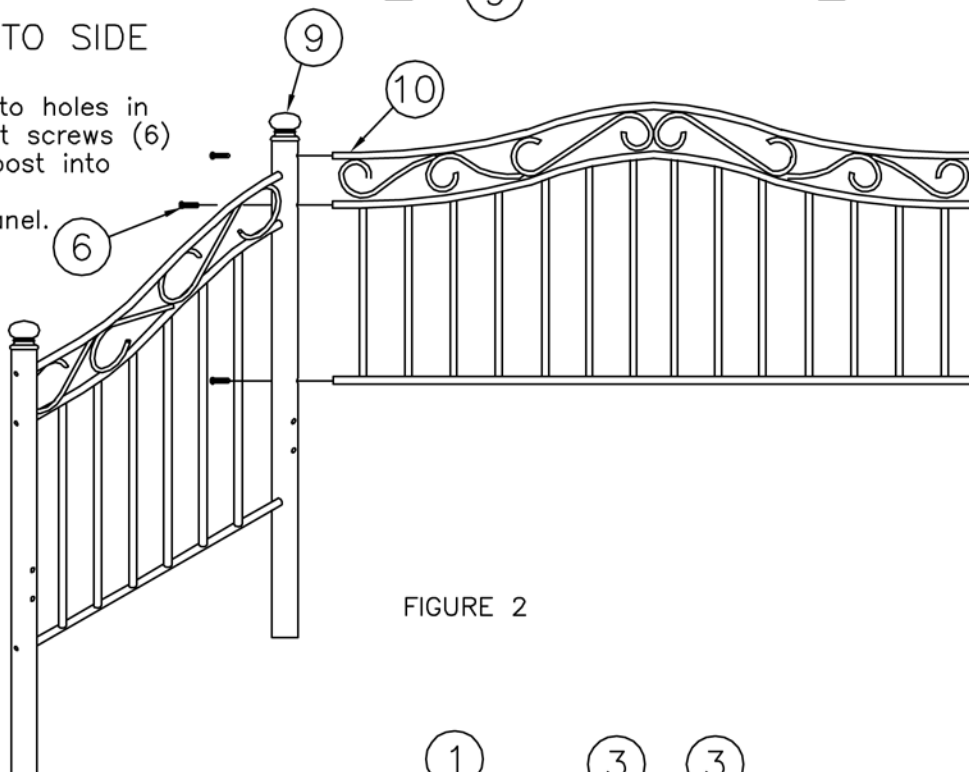

FIGURE 2
Align back panel rail ends (10) to holes in side panel back post (9). Insert screws (6) thru holes on opposite side of post into back panel rails. Repeat on other end of back panel. (See Figure 2)